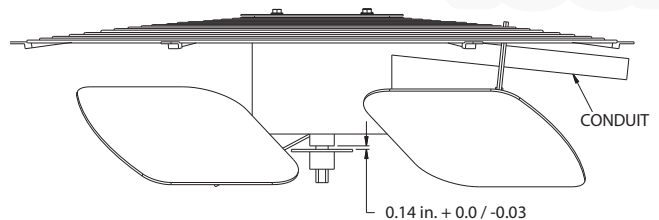

Fig. 22 — Outdoor Fan Adjustment
See Fig. 22.
4. Adjust fan height as shown in Fig. 22.